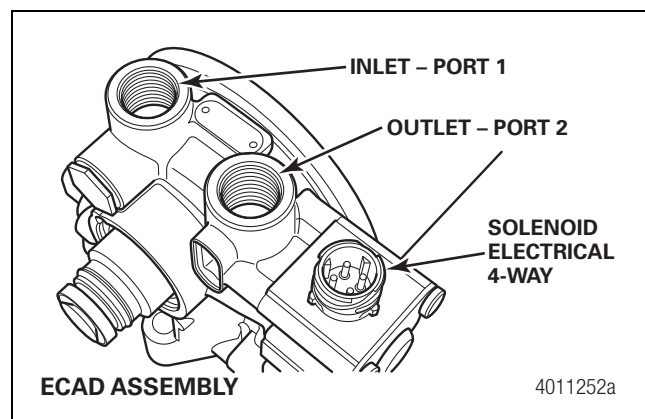
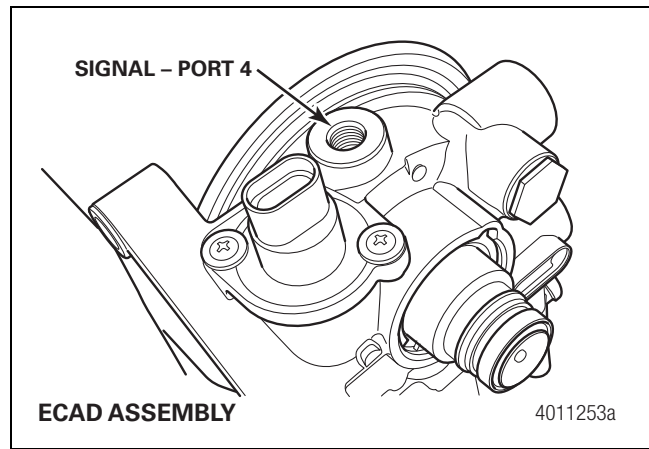

Figure 1
Figure 4
1. Disconnect the ECAD solenoid electrical 4-way connector from the air dryer. Figure 1.
5. Disconnect the air dryer inlet (port 1), signal (port 4) and outlet (port 2) lines. Figure 1 and Figure 4.